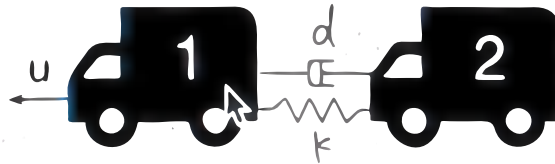

Figure 1: Two self-driving cars connected by a fictitious spring and damper.
2. Assume now that you have two identical cars. Our objective is to design a controller for car 1 and a controller for car 2 so that their joint dynamics is the same as the dynamics of the system in Figure 1 where  $u$  represents a force that is regarded as a control input by car 1. The spring constant is denoted by  $k$  and the damper constant is denoted by  $d$ .
- (a) Write the equations of motion for the system in Figure 1.
- (b) By comparing the equations of motion obtained in question 2 (a) with the equations of motion obtained in question 1, design a controller for car 1 and a controller for car 2 so that they behave as the system in Figure 1.
- Assume now the controller you computed in question 2 (b) is implemented and consider the variable  $z = x - y$  where  $x$  is the position of car 1 and  $y$  is the position of car 2. Compute the transfer function from  $u$  to  $z$  (assuming zero initial conditions) where  $u$  is represented in Figure 1.
In order for the two cars described by equations (3) and (4) to behave like the system in Figure 1 in the exam, we need to design the inputs  $f_1$  and  $f_2$  so that equations (3) and (4) become equal to the equations (1) and (2). This leads to: